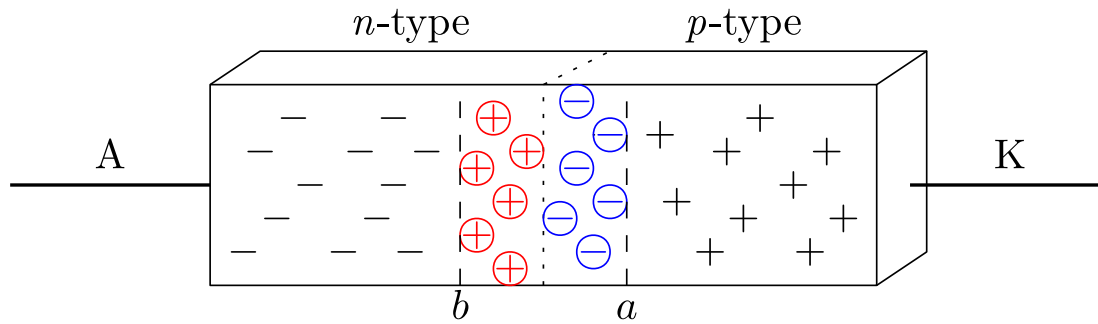

Figure 1. *pn junction*
- Fig. 1 shows v_D vs. temperature